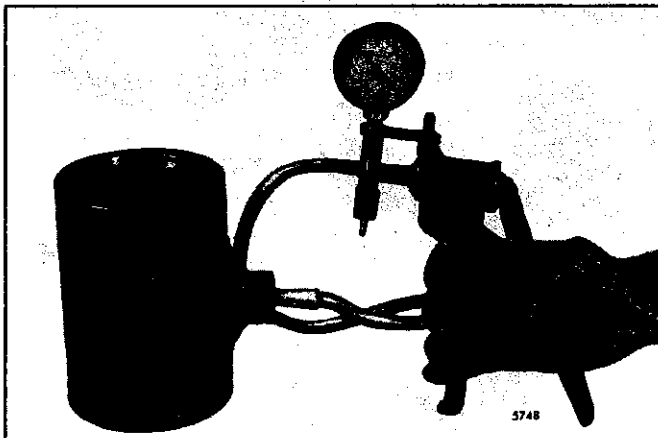

Fig. 17 - Checking Piston Pin Retainer for Proper Sealing with Tool J 23987-01
11. One important function of the piston pin retainer is to prevent the oil, which cools the underside of the piston and lubricates the piston pin bushing, from reaching the cylinder walls. Check each retainer for proper sealing with leak detector J 23987-01 (Fig. 17). Place the suction cup over the retainer and hand operate the lever to pull a vacuum of ten inches on the gage. A drop in the gage reading indicates air leakage at the retainer.